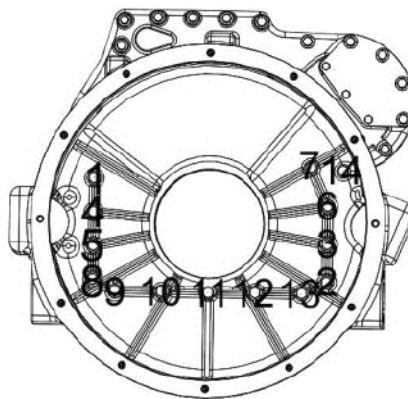

Figure 111.
8. Tighten the bolts in two steps in the following sequence (Figure 111):